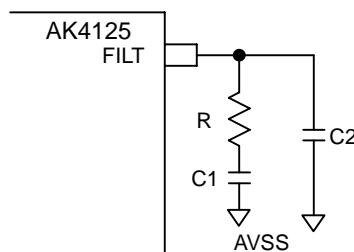

Figure 14. PLL Loop Filter
The C1 and R should be connected in series and attached between FILT pin and AVSS in parallel with C2. (Figure 14, Table 6, Table 7) Please be careful the noise onto the FILT pin. When using IBICK, the value of external element is not dependent on the IBICK input frequency.
1. When IMCLK is 256fs, 384fs, 512fs or 768fs, any external parts shown in Figure 14 are not required.